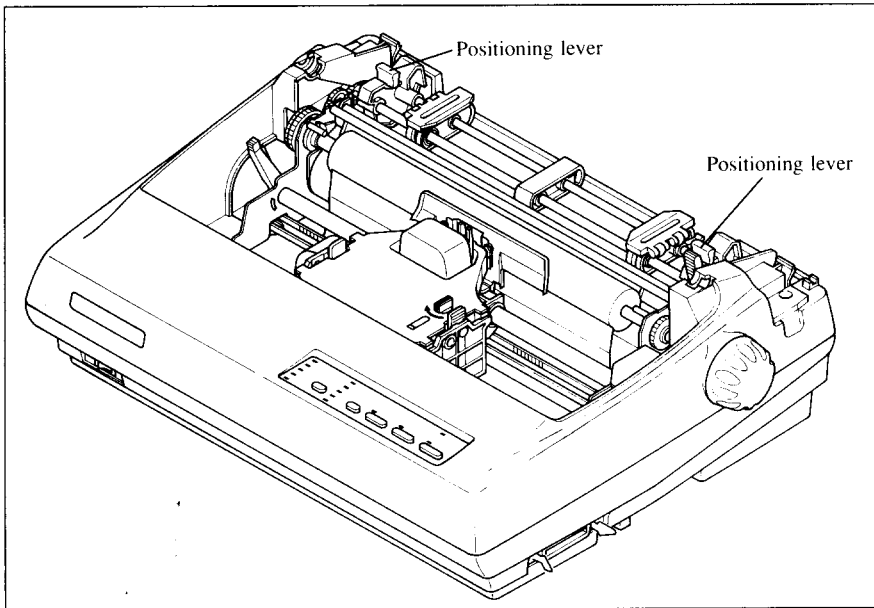

Figure 1-16. Pull up the tractor unit for bottom feeding
3. Grip the positioning levers on both side of the tractor unit, and pull the unit upwards as shown in Figure 1-16.